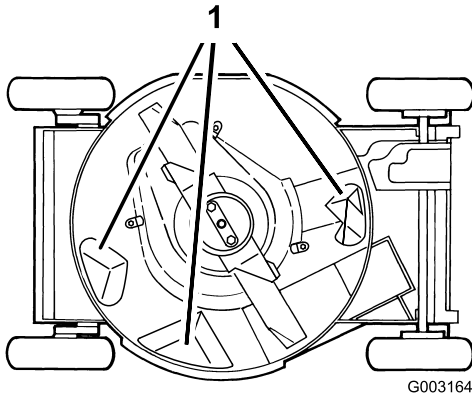

Figure 40
To ensure the best performance, keep the underside of the machine housing clean. Be especially careful to keep the kickers free of debris (Figure 40).
5. Remove 2 blade nuts, the accelerator, and the blade (Figure 40).